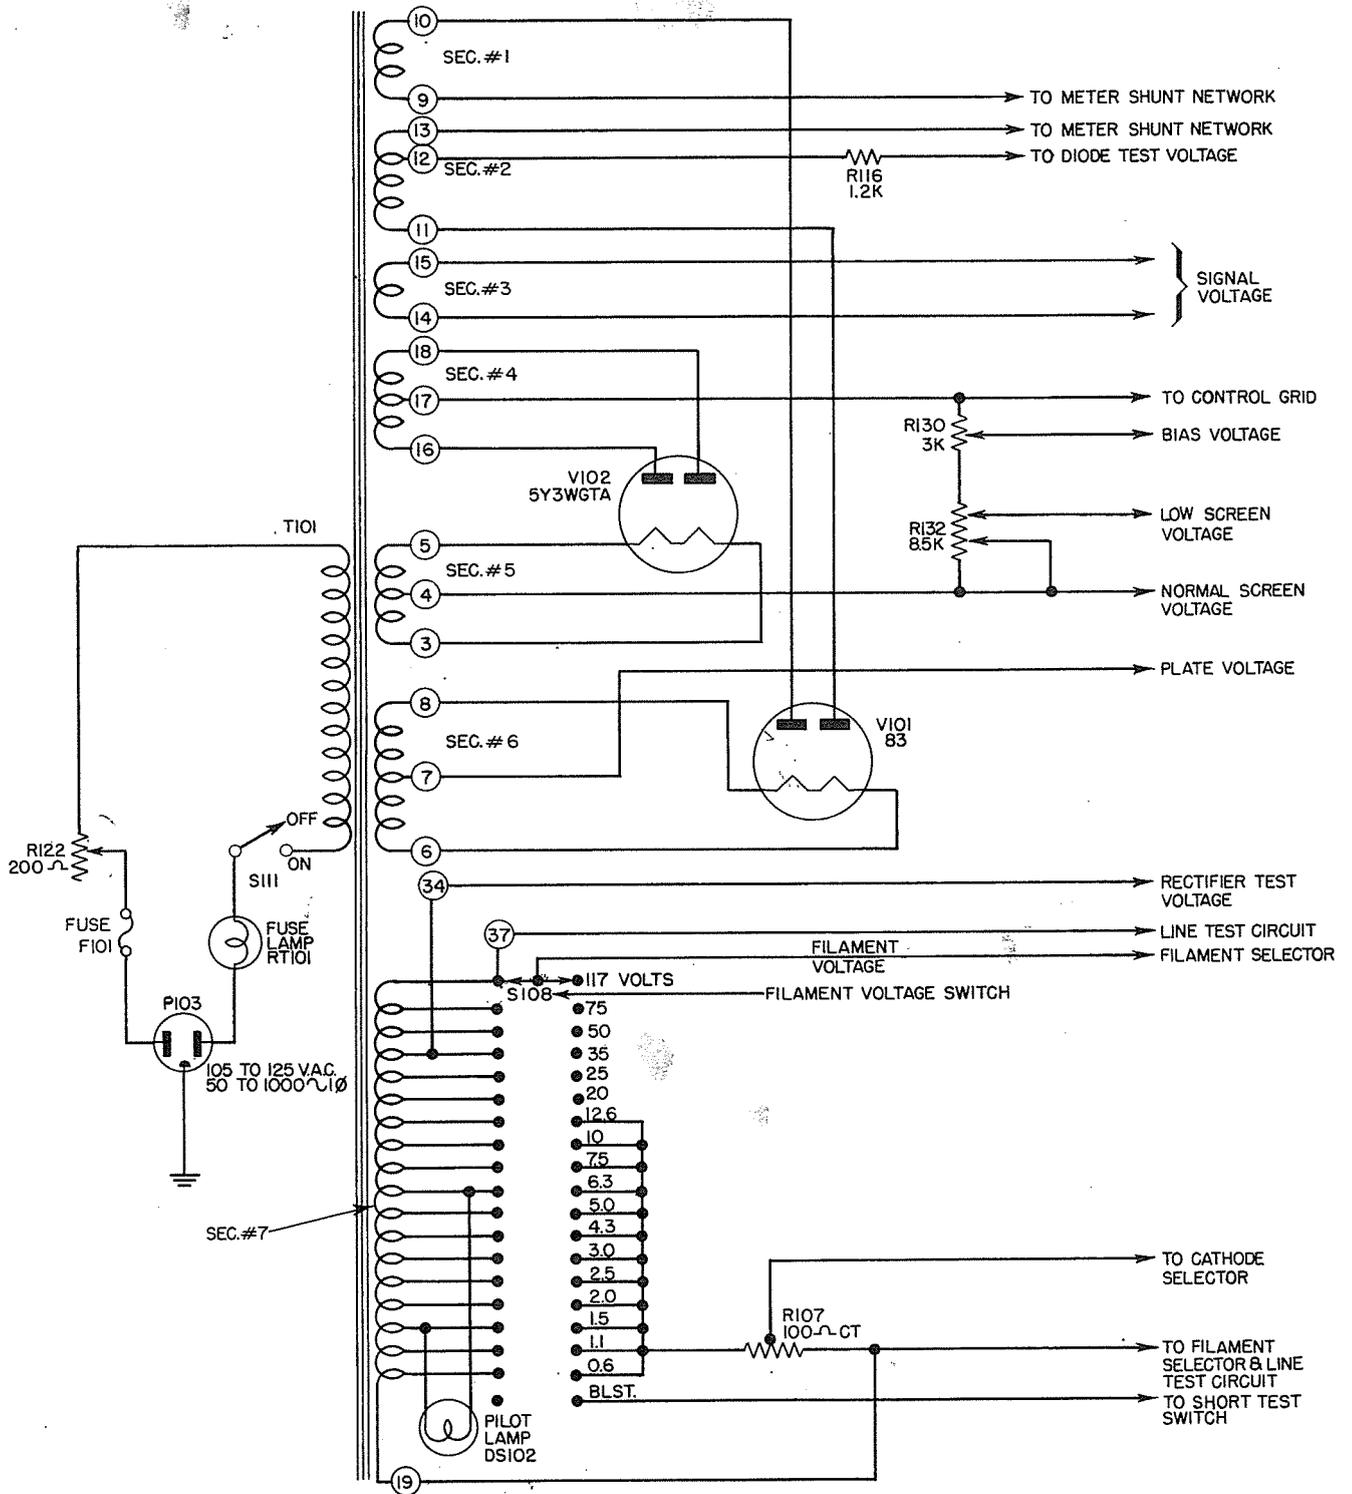

Figure 2-3. Simplified Power Supply Circuit
3. POWER SUPPLY. (See figure 2-3)
b. Secondary #7 of power transformer T101 consists of a multi-tapped winding designed to supply the various filament or heater voltages for the tubes under test. Voltages shown on figure 2-3 are nominal and may vary slightly under load depending on the type of tube under test. Secondary #7 also supplies voltage for rectifier emission tests.